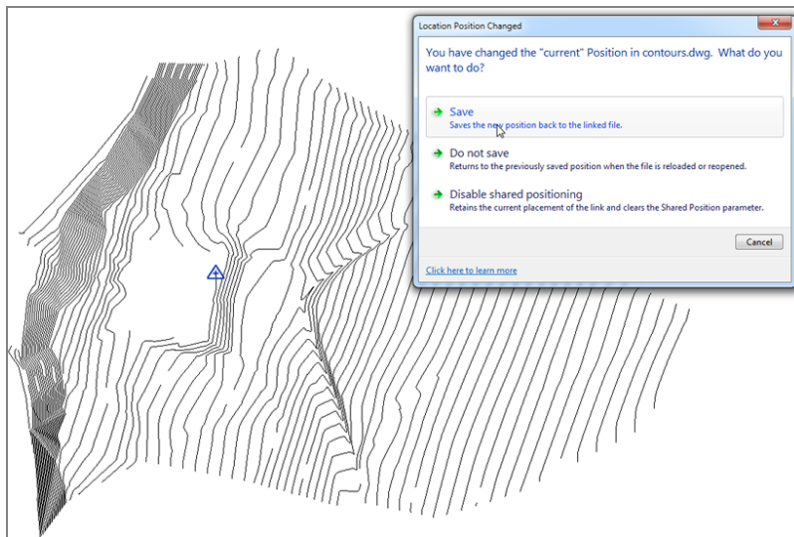

FIGURE 18.31: Saving the shared position back to the drawing
3. Move the site to a position similar to that shown in Figure 18.31.
5. Click Save. Doing so adds a new position in the site DWG file. You're now coordinated with your site people. (See Figure 18.31.)